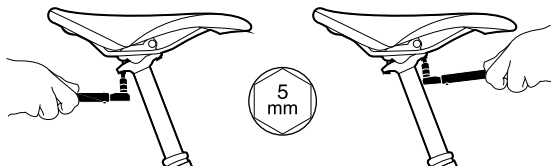

Figure 9. Steps for tightening/loosening the fitting blocks
1. Loosen the two screws that hold the saddle and seat post using a 5mm allen key (*Figure 9*) until the saddle can move easily.